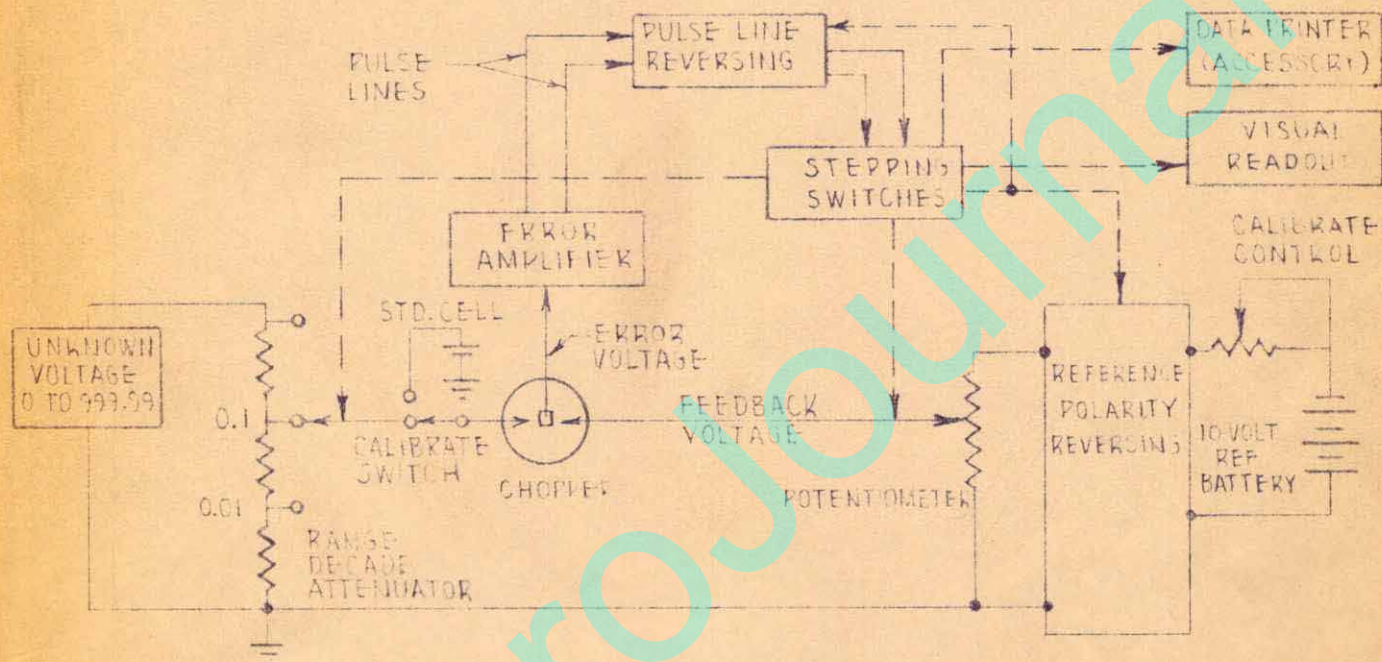
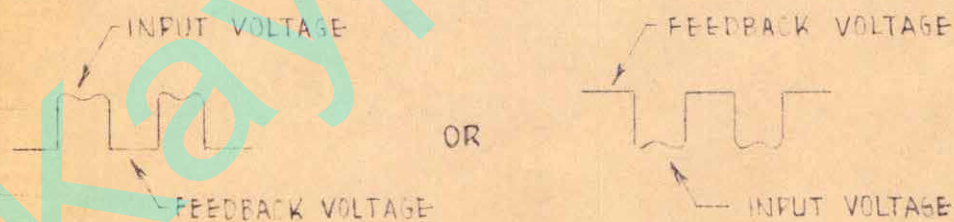

FIGURE 2. FUNCTIONAL DIAGRAM OF DIGITAL VOLTMETER
FIGURE 3. AMPLIFIER WAVEFORM ON PLATES OF LAST 12AX7 TUBE.
- c. Observe the waveform shown in Figure 3.
Figure 2 shows the actual system in more detail. The standard cell, automatic range decade attenuator, automatic polarity reversing switch and reference battery are not present in all models. The voltage divider is shown as a potentiometer for simplicity but is actually a Kelvin-Varley voltage divider composed of precision, fixed, wire wound resistors. From figure 2 it may be seen that the maximum feedback voltage is 10 volts in models containing internal reference batteries, while the unknown input voltage can be much greater. A range decade attenuator is, therefore, employed to permit achieving an equality of input voltage and feedback voltage at the chopper, which condition is called "balanced". The unknown voltage and feedback voltage are alternately sampled by the chopper, which is synchronized with the 60 cycle line voltage, and impressed across the error amplifier. Thus, the error amplifier input is a square wave whose amplitude is proportional to the difference between the unknown and feedback voltages, and whose phase is either 0 or 180 degrees with respect to the 60 cycle line depending upon whether the feedback voltage is greater than or less than the unknown voltage at the chopper. See figure 3. If the difference between the unknown voltage and the feedback voltage at the chopper exceeds 1 millivolt, an amplifier output appears as pulses on either of two wires. If the feedback voltage is higher than the unknown voltage at the chopper, pulses appear on one wire only. We call these "down pulses". If the opposite condition prevails at the chopper, pulses appear on the other wire only. We call these "up pulses". These pulses are fed through contacts on the stepping switches in the range, polarity and voltage divider decades, and then through the coils of the stepping switches one at a time in a logical sequence which causes the digital voltmeter to balance. If balance is not achieved by switching resistors in and out of the voltage divider, the switching logic causes actuation of the polarity switch and/or range attenuator switch to cause balance. Additional contacts on the stepping switches are employed to energize the visual readout and data printer leads.